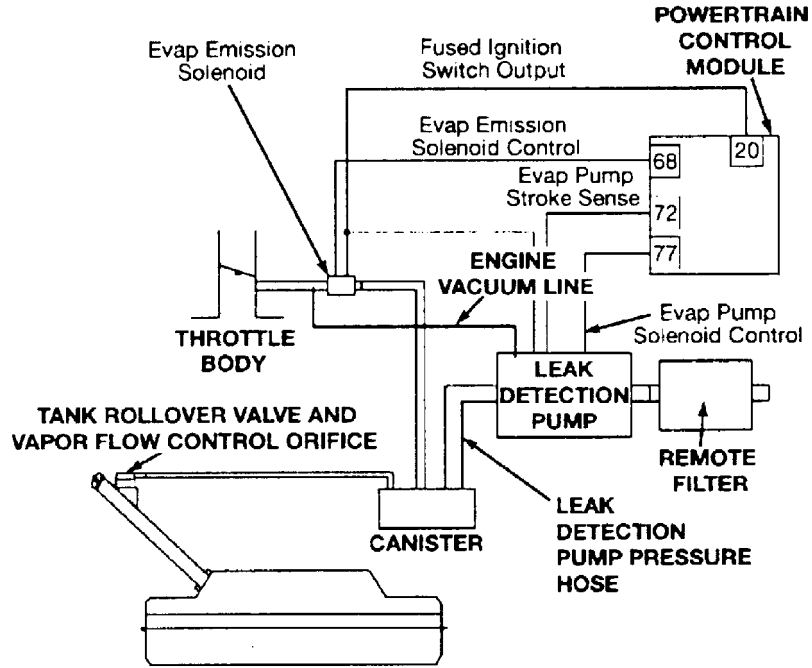

Figure C064-1 Evaporative purge flow monitor circuit with a leak detection pump for 1996–97 car and minivan; 1998 minivan except 2.4L
- Figure C064-1 Evaporative purge flow monitor circuit with a leak detection pump for 1996–97 car and minivan; 1998 minivan except 2.4L